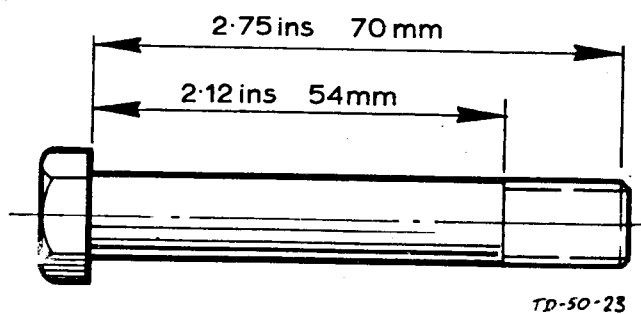

Fig. 20. COUPLING BOLTS
3. The correct bolt for the nine positions per side, other than through the brake disc, is a special UNF bolt (36 D 172 as shown in Fig.20). The other three bolts (to make 12 per side) which also retain the brake disc, should be 3.25 in. x 7/16 in. in size (XUFB 0752).